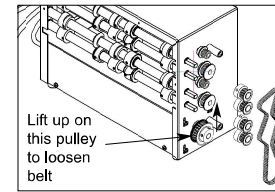

Figure 11
4. Lift up on the lower pulley to loosen the belt. Fig. 11